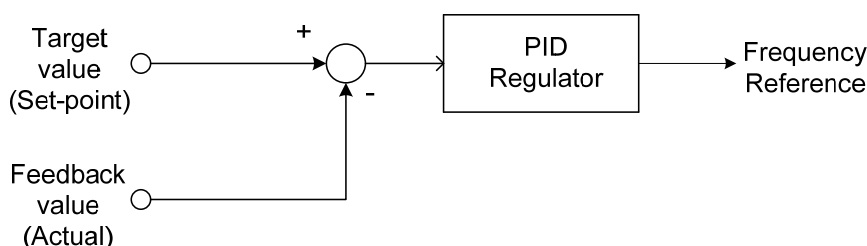

Figure 4.3.28 PID control
- (2). PID input of pulse input (03-30 = 1 or 2)
- . When setting 03-30 to 1 (PID feedback value), the pulse serial input to the control terminal PI is regarded as the PID feedback value. When setting 03-30 to 2 (PID target value), the pulse serial input to the control terminal PI is regarded as the PID target value. Please refer to Figure 4.3.28.